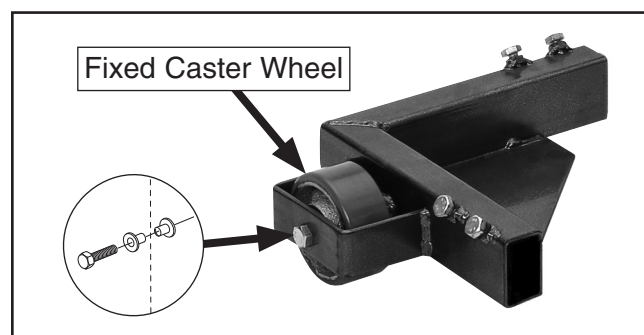

Figure 7. Fixed caster wheel installed on rear corner bracket.
4. Attach fixed caster wheels to each rear corner bracket using (1) M10-1.5 x 55 shoulder bolt and (1) bearing sleeve (see **Figure 7**).